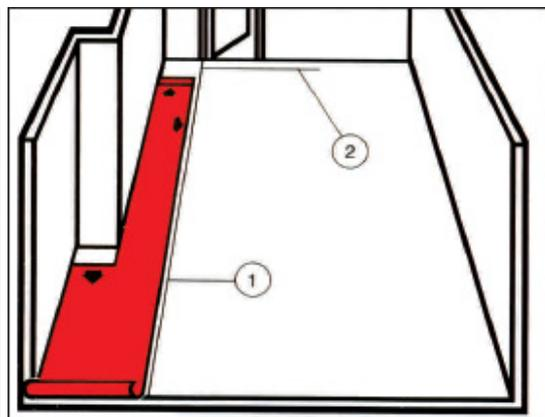

**Fig 6.**
- Draw a pencil line (1) onto the subfloor along the uncut edge of the sheeting. **Refer to Fig 6.**